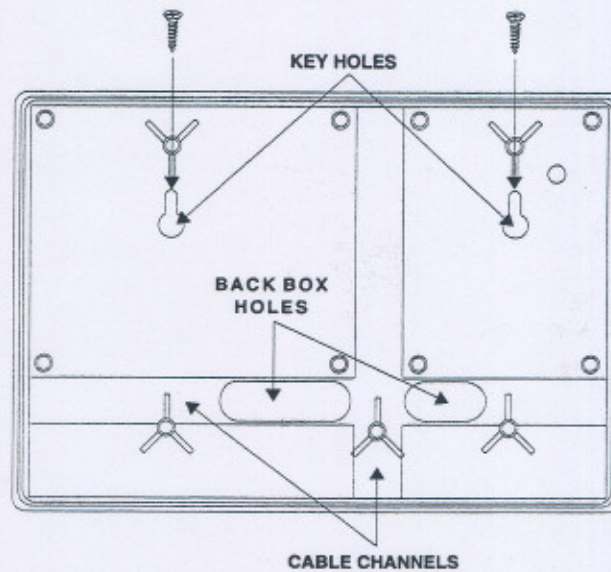

Figure 2.4 Back Box and Key Holes
4. Place the back box on the surface where you intend to mount it and mark the wall through the key holes. (See Figure 2.4.)
5. Feed the prerun wires through one of the back box holes. (See Figure 2.4.)
6. Mount the back box to the wall, using the appropriate fasteners. (See Figure 2.4.)